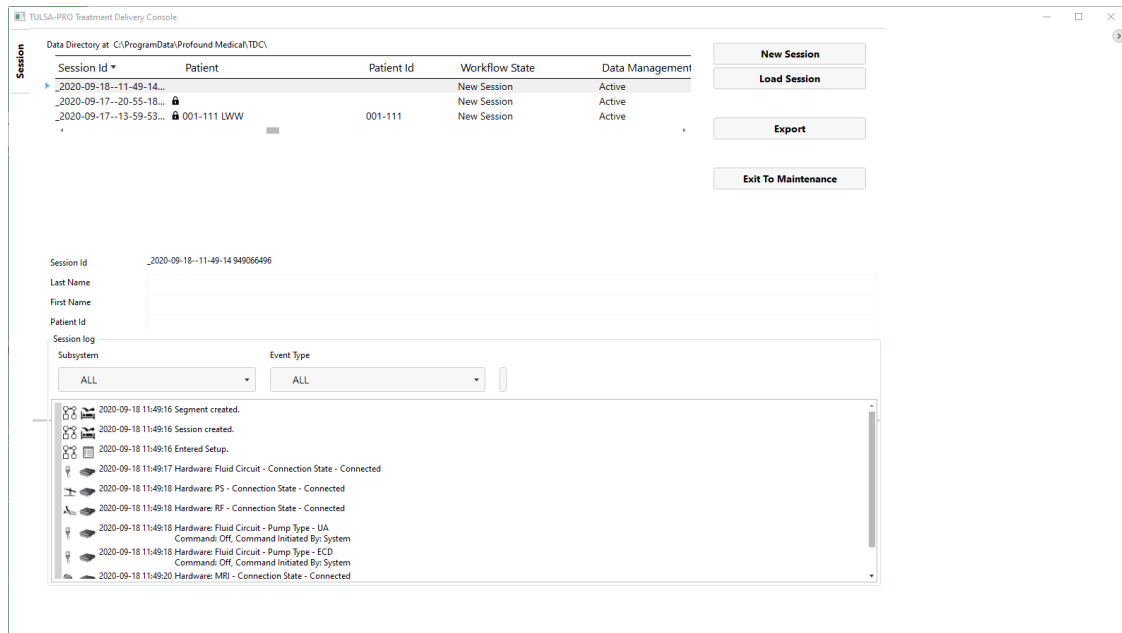

Figure 3: Session Data Management workspace of the TDC Main Menu
1. Launch the TDC software from the desktop. The *Session Data Management* workspace will appear. Click **New Session** (Figure 3).